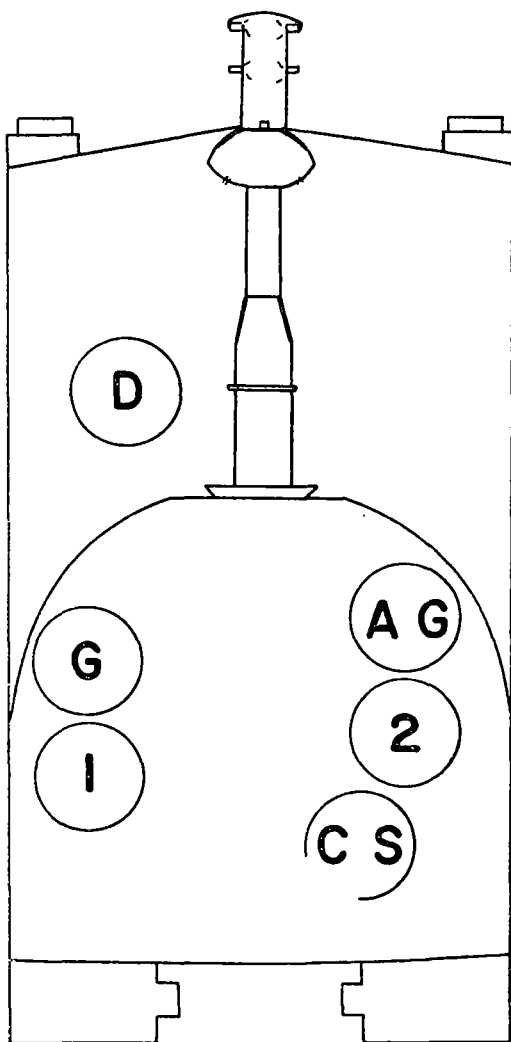

Figure 6. Posts, mounted.
(2) Figure 6, mounted.
- (2) At the command of execution, personnel mount and take positions as shown in figure 6.
- (3) If any member of the section is not to mount, he is designated and cautioned to stand fast. 1. PREPARE TO MOUNT, DRIVER STAND FAST, 2. MOUNT.
b. MOUNT. The section moves directly to the positions shown in figure 6.